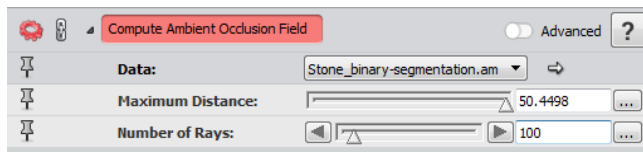

Figure 6.95: Ambient occlusion properties
- Set the *Number of Rays* port to 100, to increase the sampling, though 50 usually suffices (see Figure 6.95). In order to compute the ambient occlusion field for the background of the binary image press the **Apply** button and wait. Depending on your graphics card, it might take a few seconds up to a minute to compute.